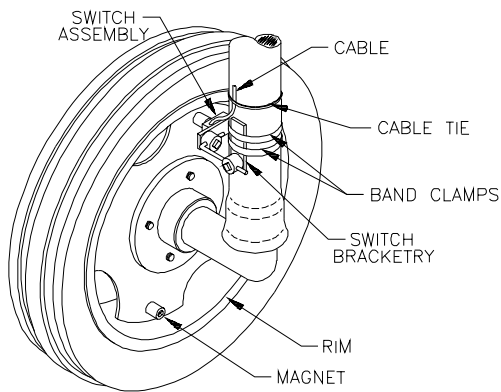

FIGURE 16A
- 3) Mount the four magnets to inside of rim and tighten. (See Figures 16A, 16B, & 16C). Magnets must be mounted in alternating red-black order.
- 4) Mount switch assembly to stationary column with the hardware provided. (See Figure 16A). The switch assembly need not pivot with the wheel.
- 5) Position switch assembly so that as the wheel rotates the magnets pass across the center of the black, molded switch assembly. (See Figures 16A & 16C).